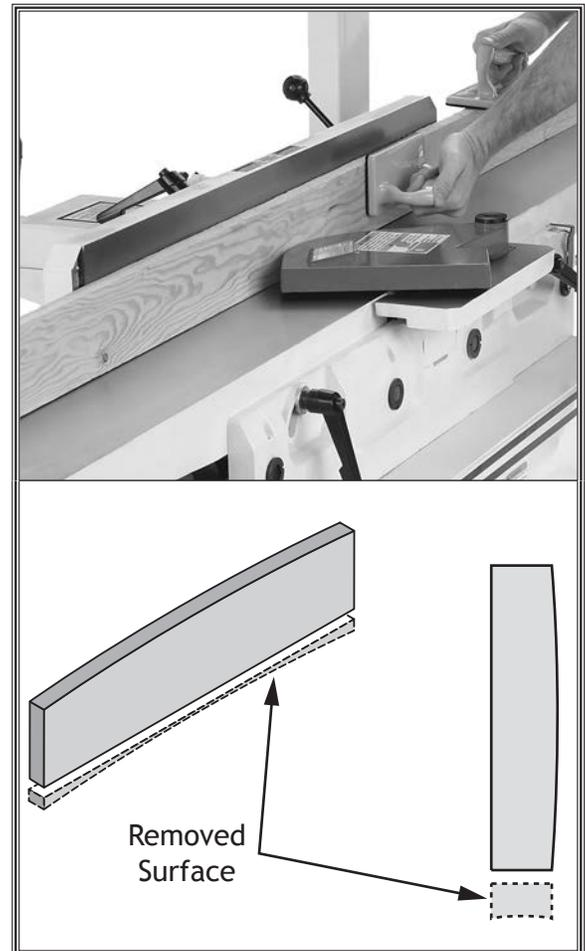

Figure 19. Example of a typical edge jointing operation.
Edge jointing (see **Figure 19**) produces a flat and true surface along the side of a workpiece by removing uneven areas. It is an essential step for squaring up warped or rough stock and when preparing a workpiece for joinery or finishing.
6. Place workpiece firmly against fence and infeed table with concave side facing down, as shown in **Figure 19**.